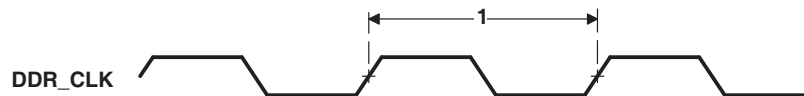

Figure 6-25. DDR2 Memory Controller Clock Timing
Table 6-31. Switching Characteristics Over Recommended Operating Conditions for DDR2 Memory Controller^{(1) (2)} (see Figure 6-25)